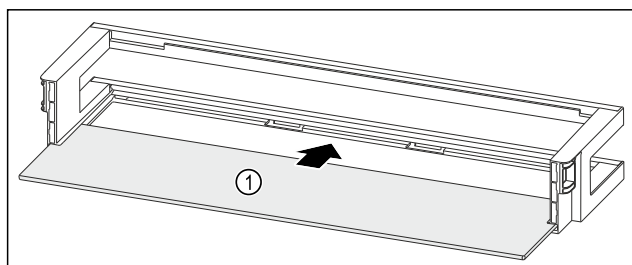

Fig. 143 Door rack with shelf
- Push the shelf Fig. 143 (1) into the side recesses.